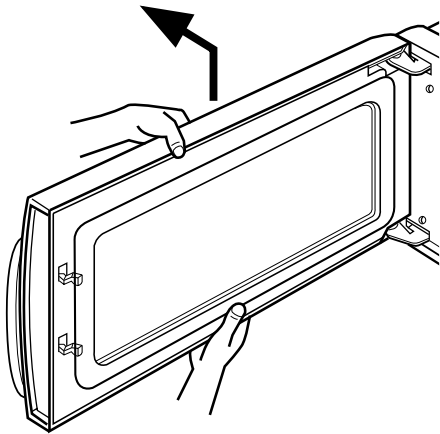

Figure 15
- (1) Remove one rivet ASS'Y securing it to the oven upper plate by using knife blade.
- (2) Remove the stirrer fan cover.
- (3) Remove the stirrer fan.
F. REMOVING DOOR (Figure 15)
- (1) Remove the vent grille by two screws securing it to the outcase loosening.
- (2) Lift up and draw the door.